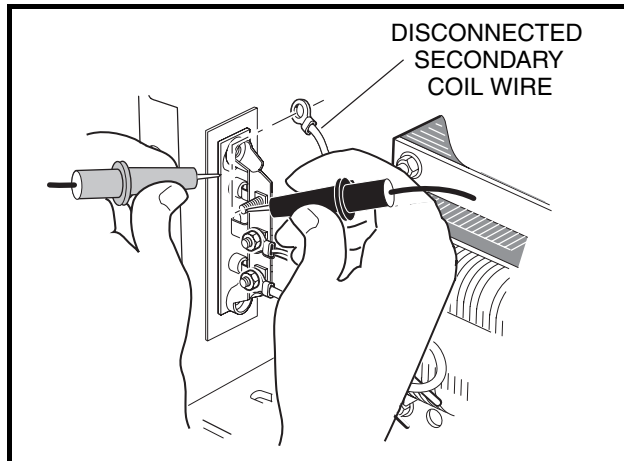

Figure 4-14 Diode Test
4. Disconnect one transformer secondary coil wire from the diode terminal (**Figure 4-14, Page 4-17**).
5. Using a low voltage continuity tester or multimeter set to the diode test function, connect the red (+) test probe to the diode mounting plate and the black (–) test probe to a diode terminal and note the reading (**Figure 4-14, Page 4-17**).